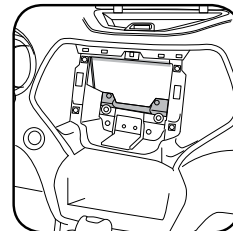

Fig. 1.7
- Using a utility knife, remove the plastic in the shaded areas. (Fig. 1.7)